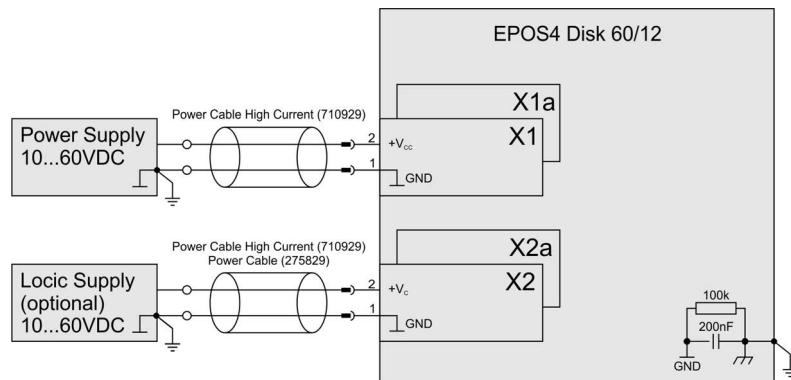

Figure 4-45 Power & logic supply
**Power supply & optional logic supply .....** ..... Figure 4-45
Power supply & optional logic supply ..... Figure 4-45